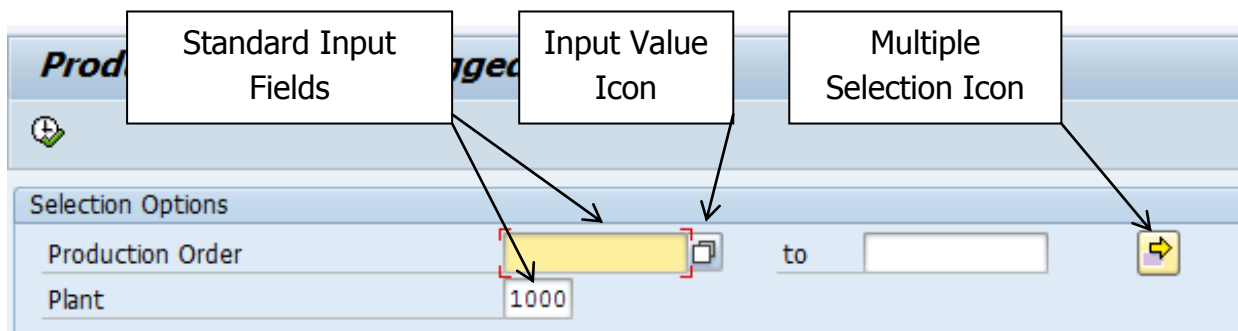
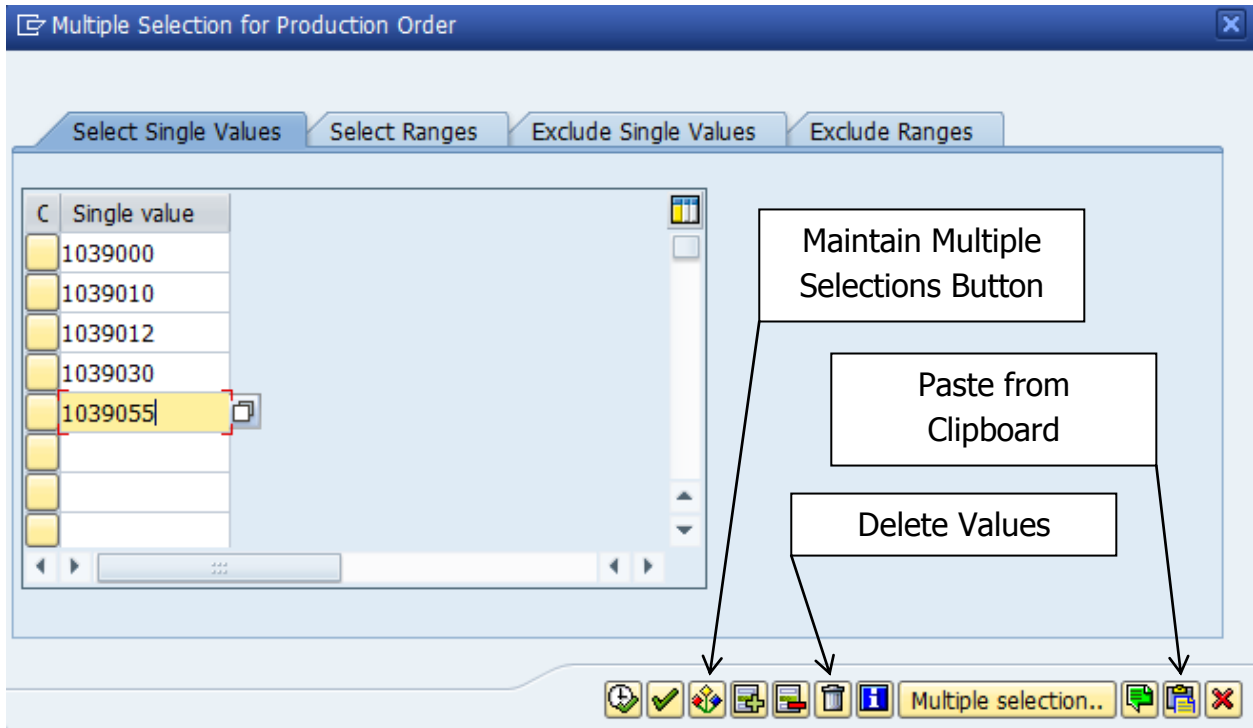

Figure 1. Input Fields
Figure 4. Multiple Selection Dialog Box
There are two main types of input fields, single entry and multiple entry. A single entry field is similar to the "Plant" field shown above in Fig 1 where the user is expected to enter a single value.
Multiple entry fields similar to the "Production Order" field shown above in Fig 1 allow the user to specify a single value (1), a range of values (1 to 4 which returns 1, 2, 3, 4) or a selection of values (1, 5, 23, 74).
Input help is usually available for input fields and can be accessed by clicking the Input Value icon (see above Fig 1.). When this is clicked a list of available values is displayed.
Multiple Selection – To do a selection of differing values use the Multiple Selection icon (shown in Fig 1.). This opens the Multiple Selection dialog box (see Fig 4.).
In here the user has the option to specify a selection of single values (as shown in Fig 4.), single/multiple ranges, exclude a selection of single values and exclude a single/multiple ranges.